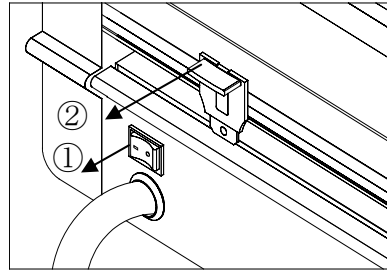

Figure 2
FPower Switch (1) - Located on the rear of the machine. "I" (on) "O" (off). (Fig. 2)
Cross Cutter (2) - Used to cut off the laminated web. (Fig. 2)
1. Turn the laminator ON (I) located on the rear of the machine. (Fig. 2)